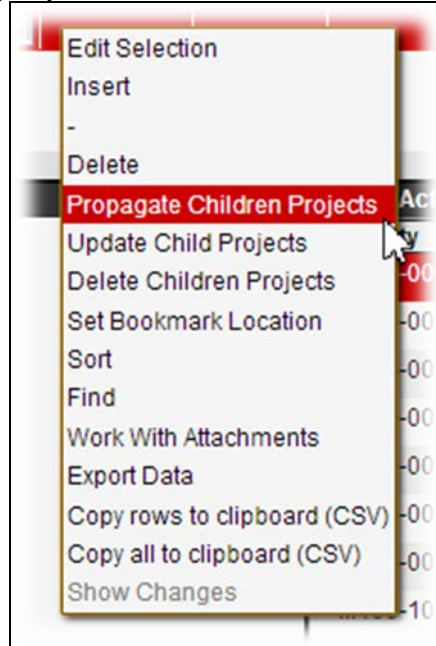

Figure 2-6. Project Add Propagation Function
a. Point to the record, and select **Propagate Children Projects** (Figure 2-6).